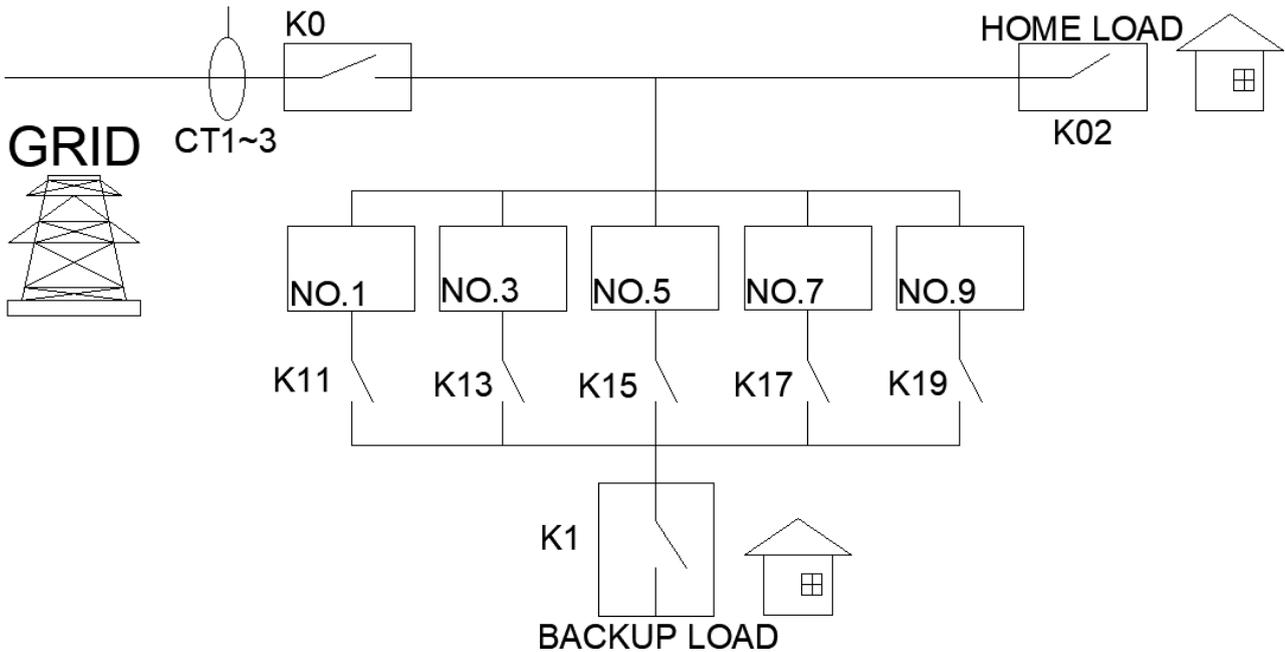

Figure 4.7 The connection diagram of five inverters
Figure 4.7 below shows the connection diagram of five inverters (No. 1, 3, 5, 7, 9). K0 is the main circuit breaker of the power grid. K11, K13, K15, K17, K19 are load circuit breakers, K1 is the load circuit breaker. K02 is a home load circuit breaker.
a) Check whether the cable connection is correct as shown in Figure 4.7 (for BMS connection, CT or ammeter connection, battery connection, and ground cable connection, refer to the previous chapter.)